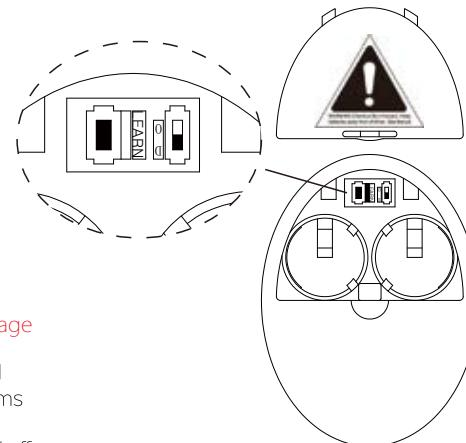

Fig. 19
## ACTIVATING THE LEARNING PROCESS(Fig.19)
2. After installation is complete, AC power is turned on within 30 seconds, press and hold the LEARN button for 3 seconds. Fan will turn on at medium speed and light (if installed) will turn on. This confirms that the SMART SYNC setting is active and ok. (FIG.19)
## LIGHT FUNCTION SELECT SWITCH(Fig.19)